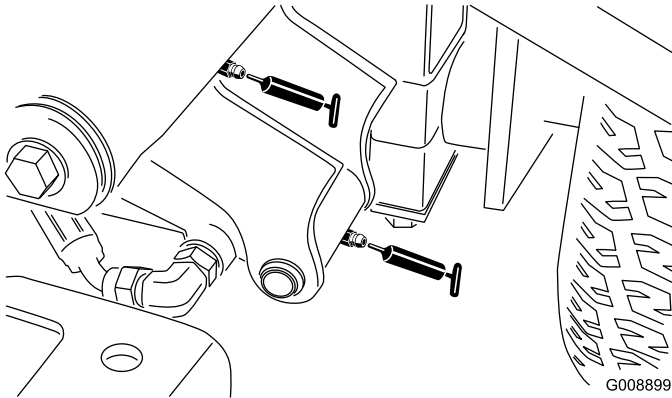

Figure 52
- Left front lift arm pivot and lift cylinder (2) (Figure 52)